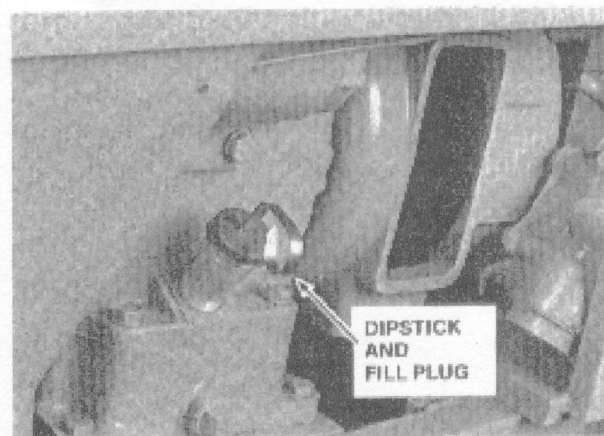

Figure 5. Engine Oil Level Dipstick
2. **ENGINE OIL.** Check level of oil in engine crankcase with dipstick (fig. 5). Add oil as needed to keep level between L and F marks on dipstick.